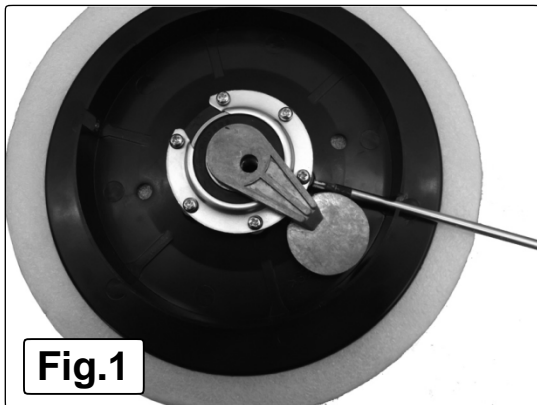

Fig.1
5.4.2. Insert a rod (cross headed screwdriver or similar) into the hole in the side of the pad mounting, see fig.1.